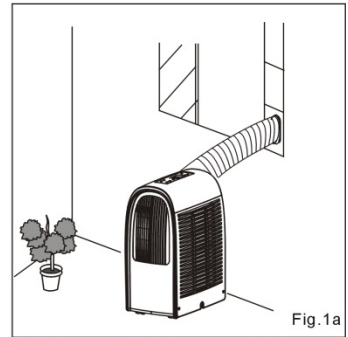

Fig.1a
1. Install the Flexible Exhaust Hose and the Adjustable Window Slider Kit as depicted in Fig.1 & Fig.1a.